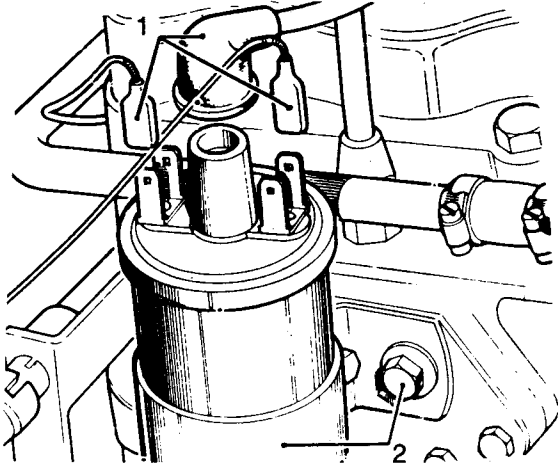

Fig D4.1
(2) Refer to Fig D4.1. Disconnect the leads (1) from the ignition coil.
(3) Unscrew the fixings (2) and remove the coil.